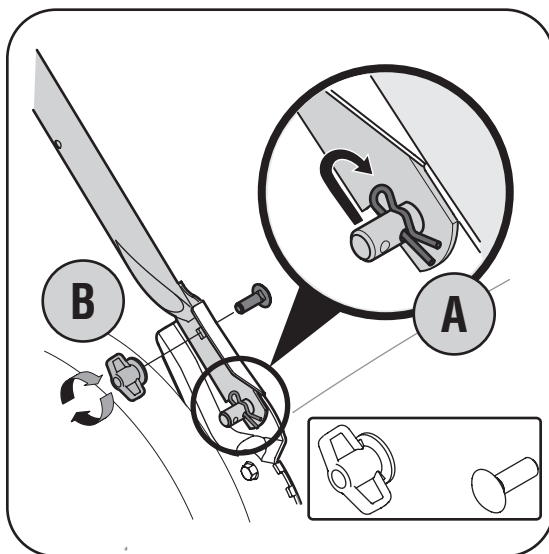

Figure 3-2
- a. Remove hairpin clip from this hole. Using a pair of pliers, insert hairpin clip into the other hole on the weld pin. Repeat on other side. See Figure 3-2.